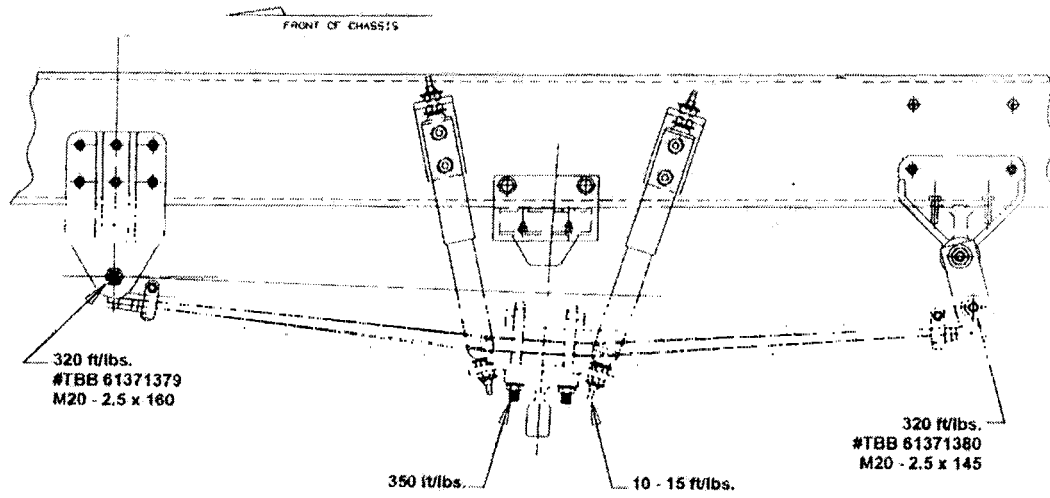

Fig. 1
3. Re-Install 3/4 - 10 x 6 Bolts in Spring Shackle, torque **320 ft/lbs. Fig. 1**